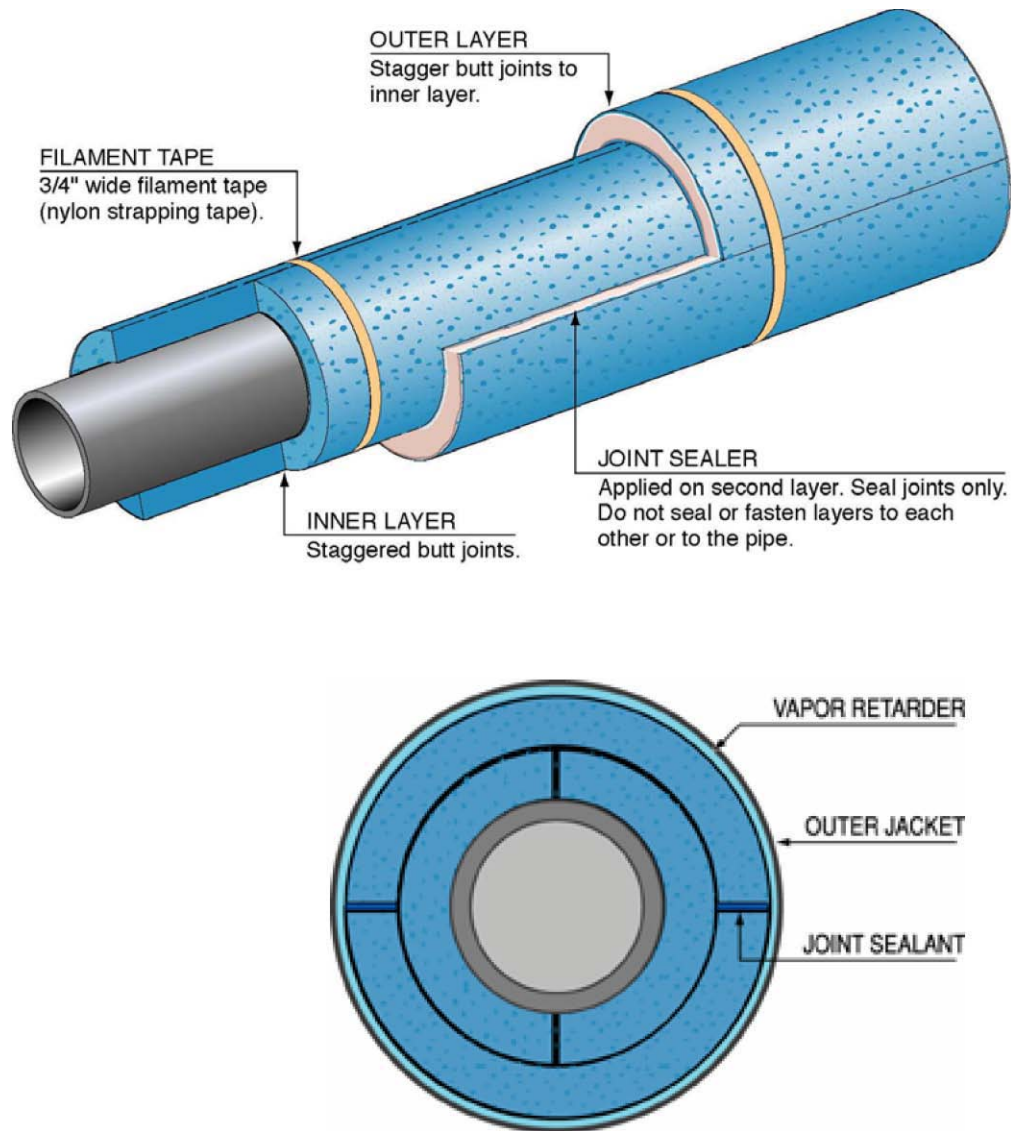

Figure 3
- 4.1.2 Where insulation thickness required is greater than 2 1/2", employ a double layer system. Stagger all longitudinal joints between the inner and outer layers. Install the inner and outer layer longitudinal joints 90° to each other with the inner layer joints in the 12 and 6 o'clock positions and the outer layer joints in the 3 and 9 o'clock positions. All butt joints between the inner and outer layers shall be staggered between 6 and 18 inches. Refer to Figure 3 in Appendix B.
- 4.1.7 Single layer insulation shall be applied to piping with all joints sealed full depth with joint sealant and spread to uniform thickness so that joints appear tight and uniform. Refer to Figure 8 in Appendix B. In double layer insulation system, inner layer shall not be installed with sealants. In double layer systems inner and outer layer shall remain independent of each other so as to allow movement between the layers. Refer to Figure 3 in Appendix B.